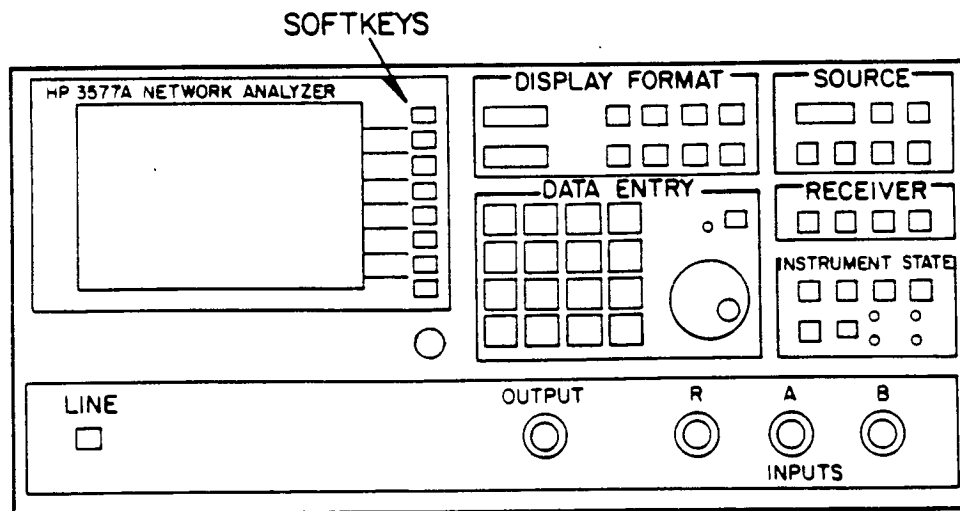

FIGURE 2-48. HP 3577A Network Analyzer, Location of SOFTKEYS, DISPLAY FORMAT Keys, SOURCE Keys, and DATA ENTRY Keys.
- a. To set the HP 3577A output level to -20 dBm, press the following sequence of keys. Figure 2-48 shows the location of SOFTKEYS, DISPLAY FORMAT keys, and SOURCE keys.
- (1) SOURCE selection key is used to display Amplitude menu.
- (2) SOFTKEY used to change amplitude level.
- (3) DATA ENTRY.
- (4) SOFTKEY selection of units for the DATA ENTRY.